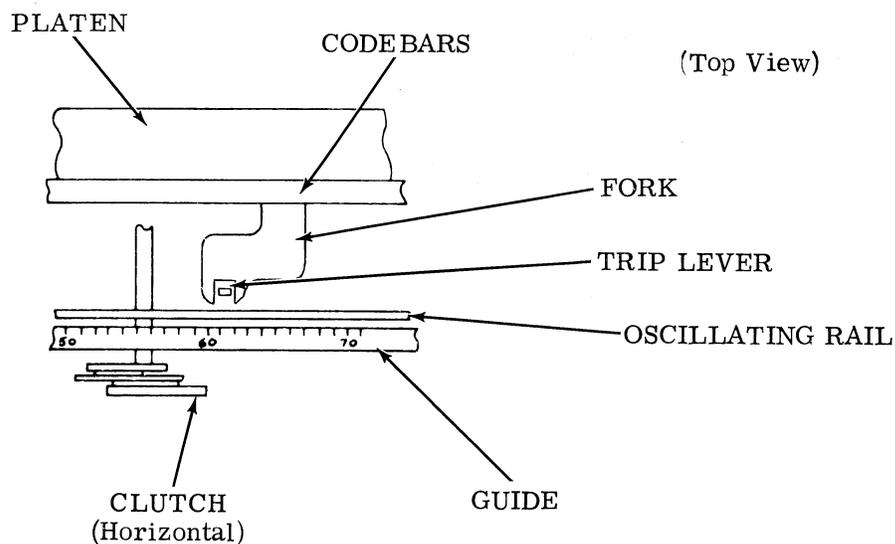

Figure 3 - Codebar Fork and Clutch Trip Lever Alignment
2.08 View the typing unit from the top front and check the alignment of the four horizontal positioning clutch trip levers with the codebar forks. See Figure 3. If trip lever is not inside the fork, lift the codebar fork and position the trip lever into the fork. It may be necessary to loosen front plate mounting screws in order to reposition trip levers. Tighten mounting screws.